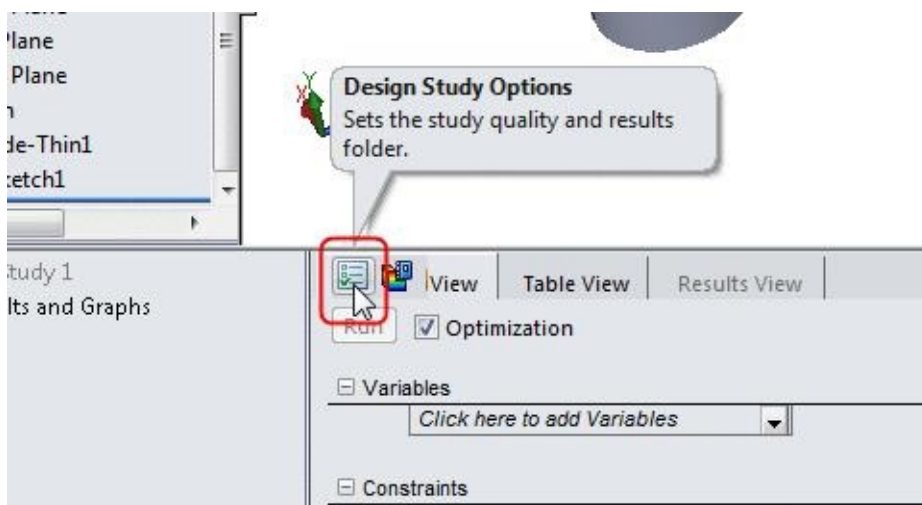
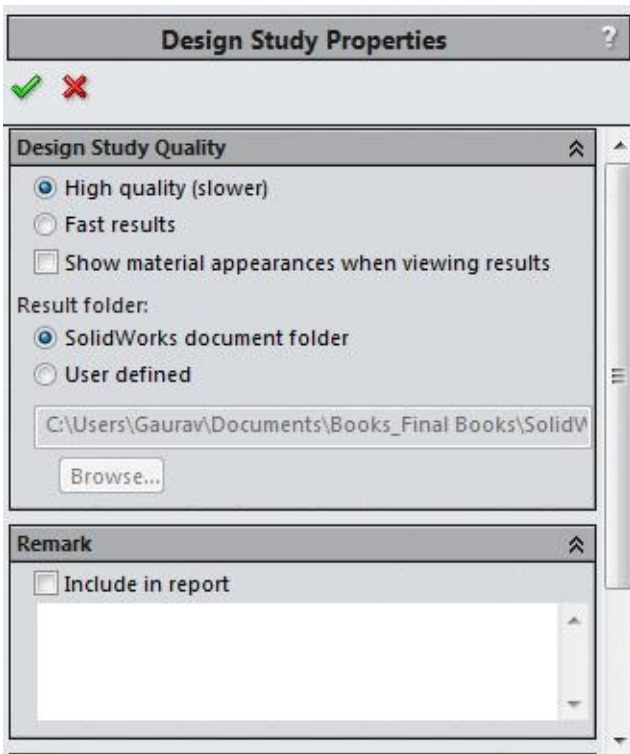

Figure-14. Design Study Options button
Figure-15. Design Study Properties PropertyManager
- Click on the **Design Study Options** button from the **Design Study** pane; refer to Figure-14. The **Design Study Properties PropertyManager** will be displayed; refer to Figure-15.